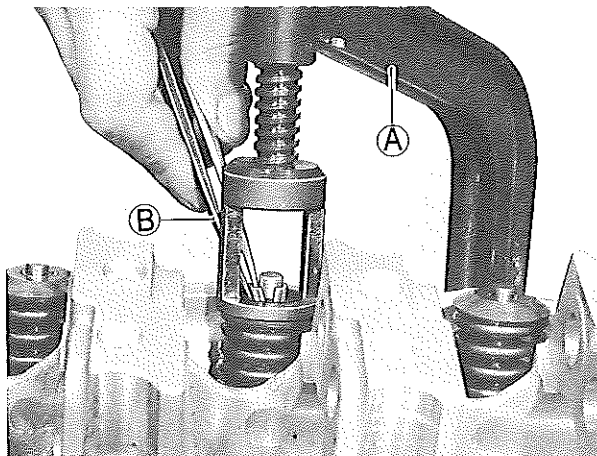

Fig. 4-122 ② Forceps (09916-84510)
To fit valve cotters to the groove provided on the end portion of each valve stem, be sure to use the valve lifter ① (09916-14510): compress the valve spring with this lifter and mount the cotter pieces, as shown in Fig. 4-122.